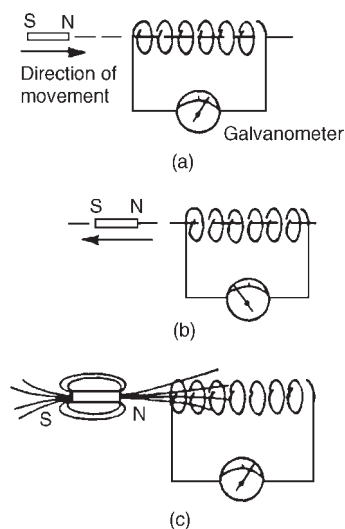

Figure 9.1
Figure 9.1(a) shows a coil of wire connected to a centre-zero galvanometer, which is a sensitive ammeter with the zero-current position in the centre of the scale.
- When the magnet is moved at constant speed towards the coil (Figure 9.1(a)), a deflection is noted on the galvanometer showing that a current has been produced in the coil.
- When the magnet is moved at the same speed as in (a) but away from the coil the same deflection is noted but is in the opposite direction (see Figure 9.1(b)).
Figure 9.1(c) shows the magnetic field associated with the magnet. As the magnet is moved towards the coil, the magnetic flux of the magnet moves across, or cuts, the coil. **It is the relative movement of the magnetic flux and the coil that causes an e.m.f. and thus current, to be induced in the coil.** This effect is known as electromagnetic induction. The laws of electromagnetic induction stated in Section 9.2 evolved from experiments such as those described above.